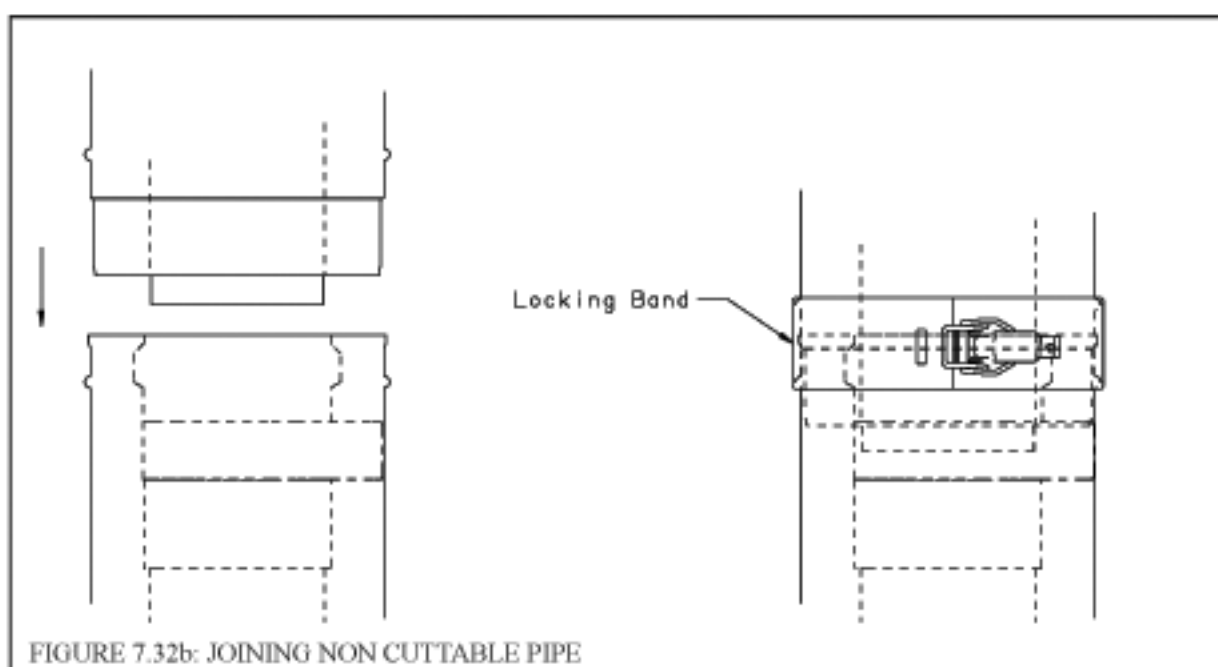

FIGURE 7.32b: JOINING NON CUTTABLE PIPE
- Push the male end of the first fitting into the boiler collar until it bottoms out. The male end of cuttable sections should go 1" into the collar until the insertion mark (made in Step 2d above) is covered. On other fittings, the bead on the male pipe will bottom out on the collar (Figure 7.32b).
- Use locking bands (provided with all fittings) to secure non-cuttable pipe, as well as fittings, to the boiler collar (Figure 7.32b).